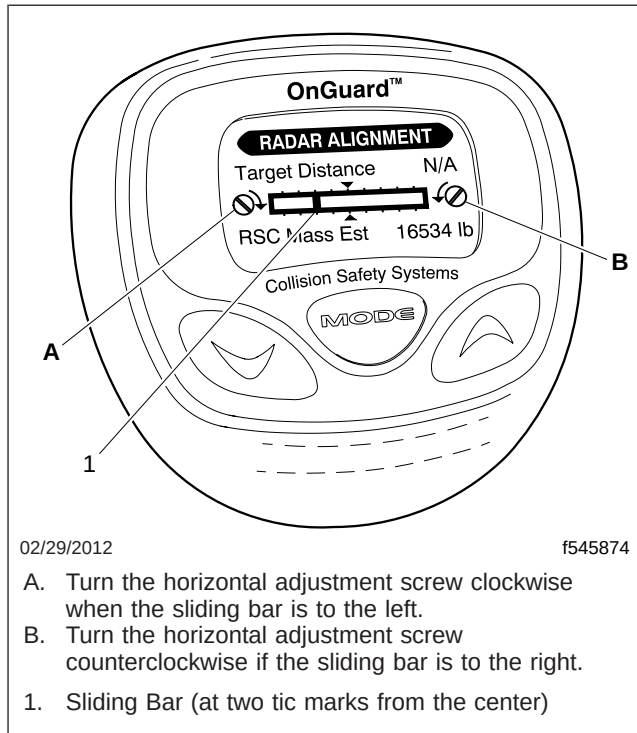

Fig. 5, OnGuard Driver Display Unit
1. Start the engine and press "MODE" twice on the OnGuard driver display unit to select the radar alignment screen. See Fig. 5.